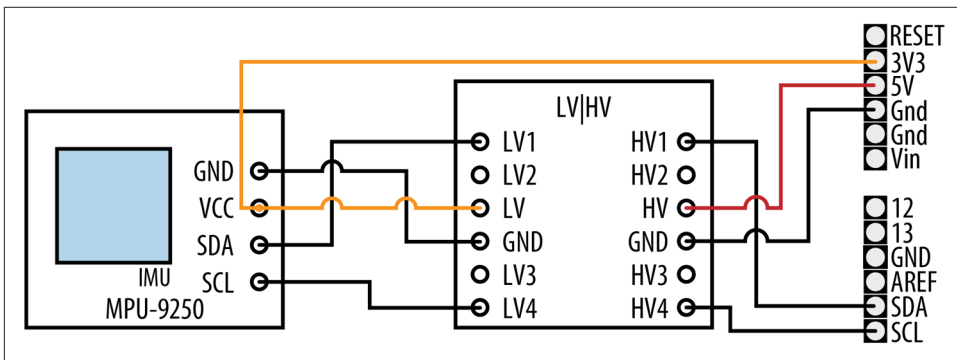

Figure 13-3. Using a 3.3V device with a logic-level translator
Many I2C devices are intended for 3.3-volt operation and can be damaged when connected to a 5-volt Arduino board. To connect these devices, you can convert the voltage levels with a bidirectional logic-level translator such as SparkFun's BOB-12009 breakout board or Adafruit part 757. See Figure 13-3. The level converter board has a low-voltage (LV) side for 3.3 volts and a high-voltage (HV) side for 5 volts.